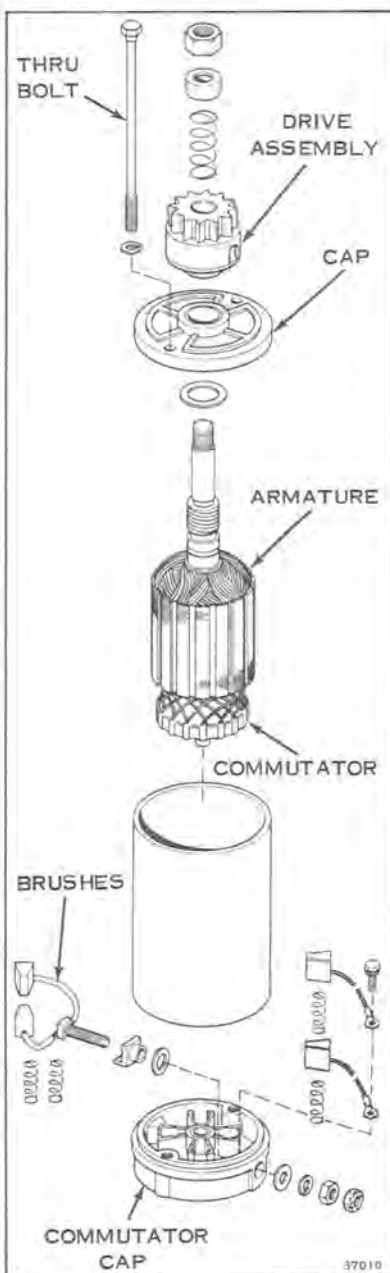

Figure 7-39
**INSPECTION OF STARTER MOTOR (See Figure 7-39)**